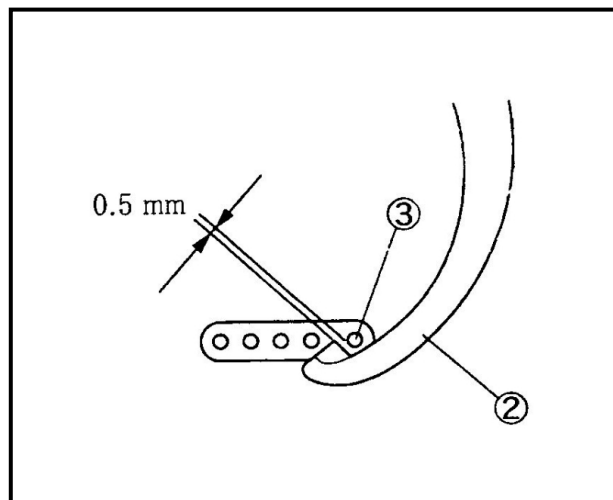

Fig.52
當大上勾針②停在最右邊時，和假針③要有 0.5mm 的間隙。(Fig.52)
When the hook②moves at the extreme right,make the clearance between the hook②and the retainer③ to 0.5 mm. (Fig.52)